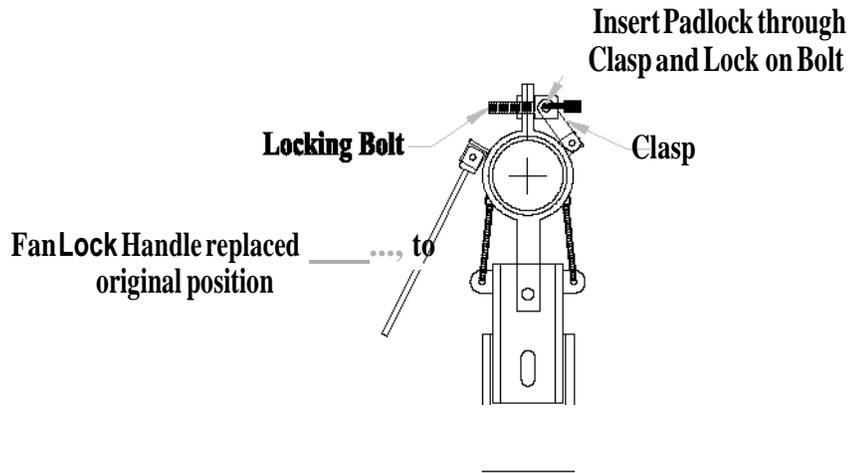

Figure4
- Rotate clasp up to align the hole of the Clasp with Locking Bolt hole. Insert a Padlock through the two holes. Lock Out/Tag Out is achieved with the Padlock locked in position. (See Figure 4)